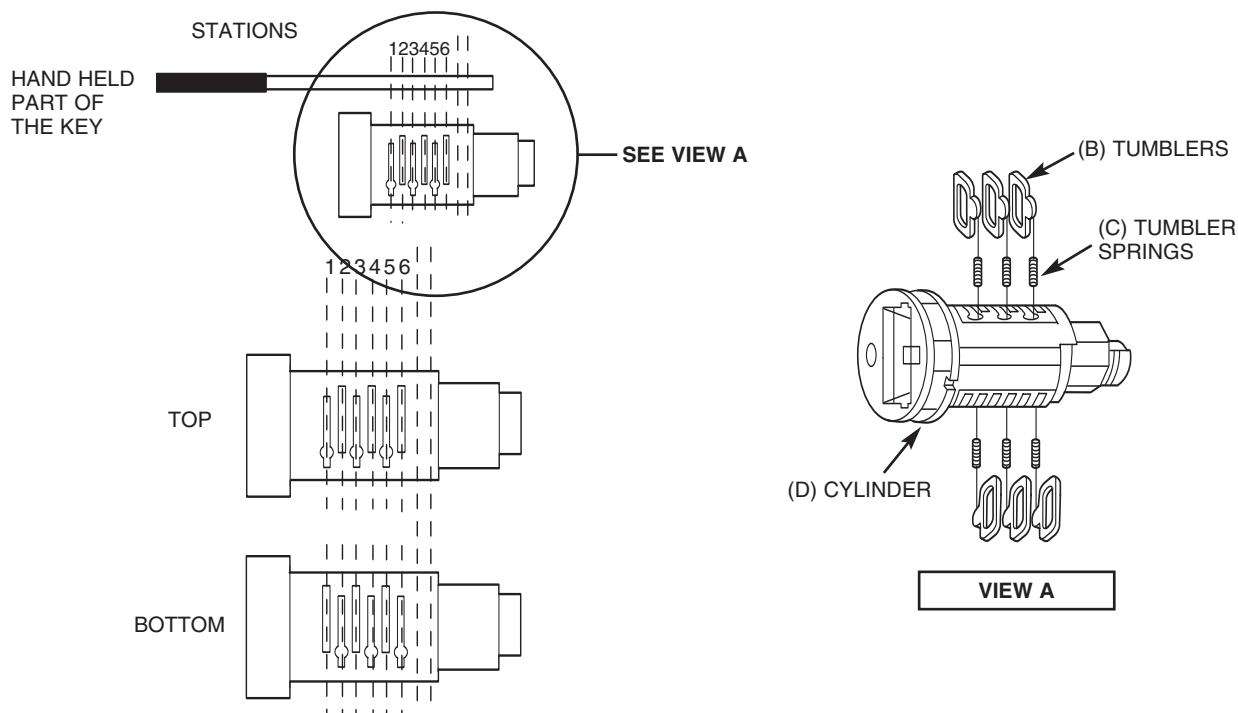

FIGURE 3
2. Insert the shutter spring (M) into the round hole at the front of the lock cylinder (D), if not installed already.
3. Insert the shutter assembly (L) into the rectangular depression with notches at the long ends, located at the front of the lock cylinder (D), if not installed already.
5. Insert one tumbler spring (C) into the each of the holes located at the end of the tumbler slots on the lock cylinder sub-assembly (D).
6. Insert the required tumblers (B1, B2, B3, B4, or B5) into the tumbler slots in the proper orientation (refer to Figure 3), and in the sequence that match the key cut depths, for key stations 1, 2, 3, 4, 5 and 6.
8. With the key inserted, apply the included grease (E) to the lock cylinder sub-assembly.
9. With the key in the lock cylinder sub-assembly, insert the lock cylinder sub-assembly into the lock case (F).
10. Rotate the lock cylinder sub-assembly within the lock case at least ten (10) times so that the grease (E) applied to the lock cylinder sub-assembly is distributed along the inner surface of the lock case (F) and the exterior surface of the lock cylinder sub-assembly.
11. Position the key in a vertical orientation and remove the key from the lock cylinder sub-assembly (D) while keeping the lock cylinder sub-assembly (D) within the lock case (F).
12. Place the shutter cover (I) over the lock case and the lock cylinder. Use a pair of small pliers to gently bend the four tabs on the shutter cover (I) inward toward the center of the lock case to secure the lock cylinder (D) within the lock case (F).
13. Install the return spring (J) on the tail end of the lock cylinder sub-assembly using fingernails or a spring winding tool. Install the white spacer (K) (if so equipped - Lincoln LS) with the recessed side towards the return spring (J) on to the tail end of the lock cylinder sub-assembly, or install the anti-theft switch (if so equipped - Mustang) on to the tail end of the lock cylinder sub-assembly in the same orientation as noted in step A on page 1 to retain the spring on the lever. This assembly should hold itself together. Press this assembly, with the white spacer (K) towards the lock assembly on to the tail section of the lock and retain with the E-clip (H).
14. Carefully assemble the lock lever on to the tail end of the lock cylinder sub-assembly in the same orientation as noted in step A on page 1 and secure using the E-clip (H).